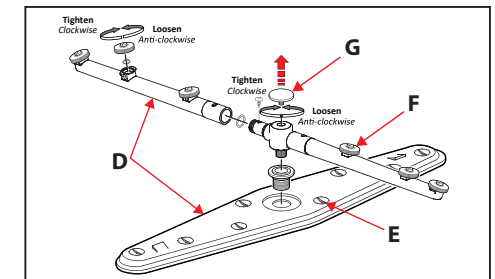

Fig.2
1. Remove the fixing screw (G) to remove the wash/rinse arms. Check that the nozzles (E) & (F) are not blocked with food waste. The nozzles (F) can be removed for cleaning if required Fig. 2.
2. Reinstall the wash/rinse arms using fixing screw (G) Fig. 2.